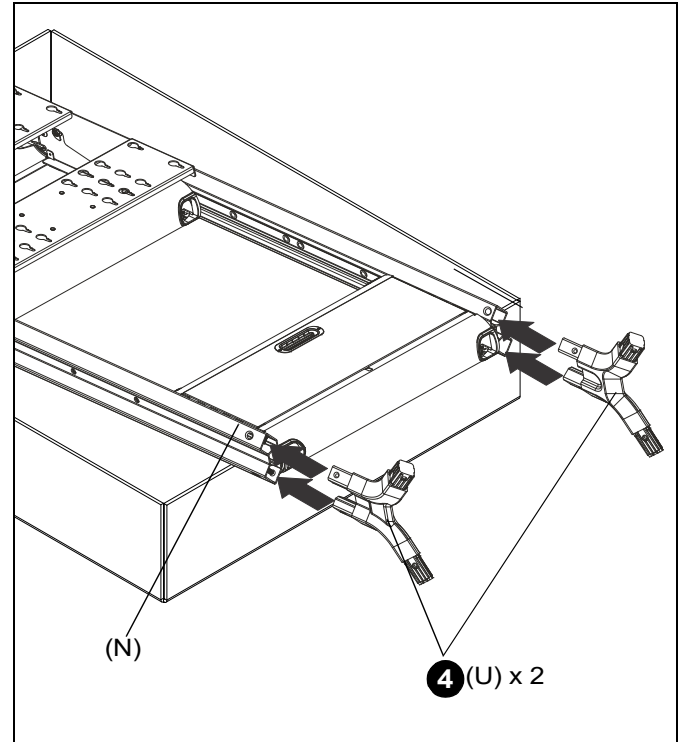

Figure 2
4. Insert coupler assemblies (U) onto main assembly (N), lining up the holes on the couplers with the holes on the main assembly (N). (See Figure 2)